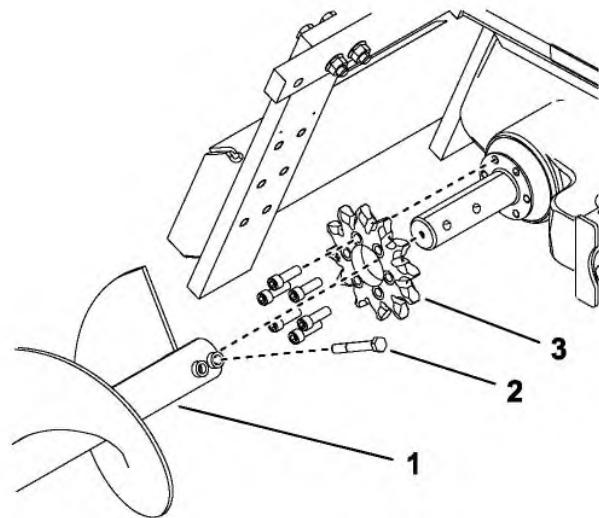

Figure 15
4. Remove the spoils auger (Figure 15).
9. Remove the 6 bolts securing the drive sprocket (Figure 15).
10. Remove and discard the drive sprocket (Figure 15).
12. Slide the new sprocket onto the shaft as illustrated in (Figure 15).
13. Thread the 6 bolts into the sprocket finger tight (Figure 15).